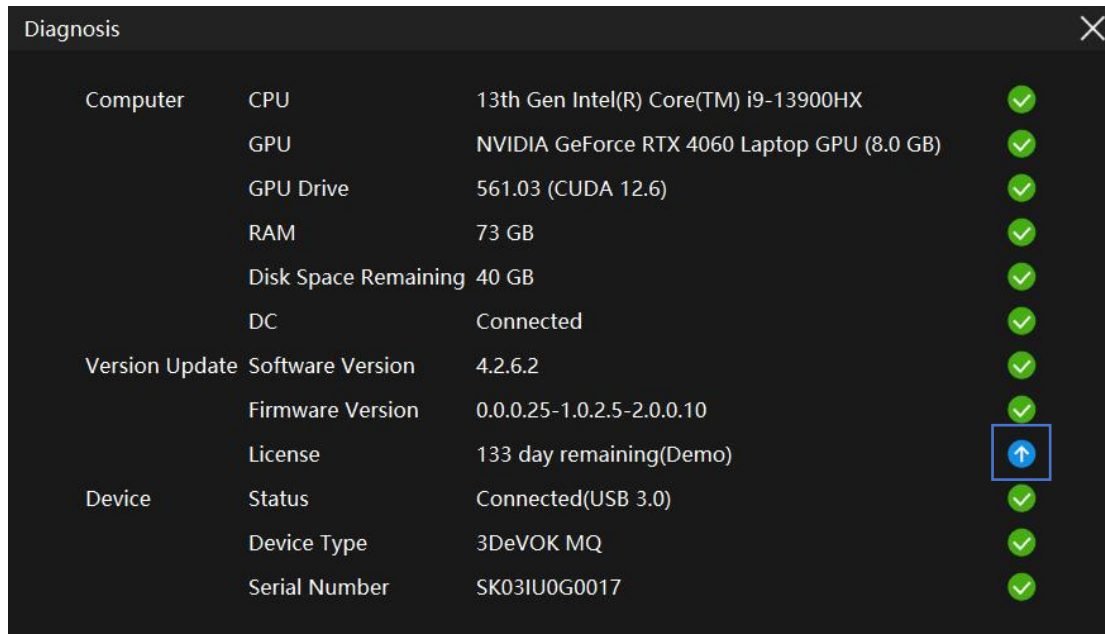
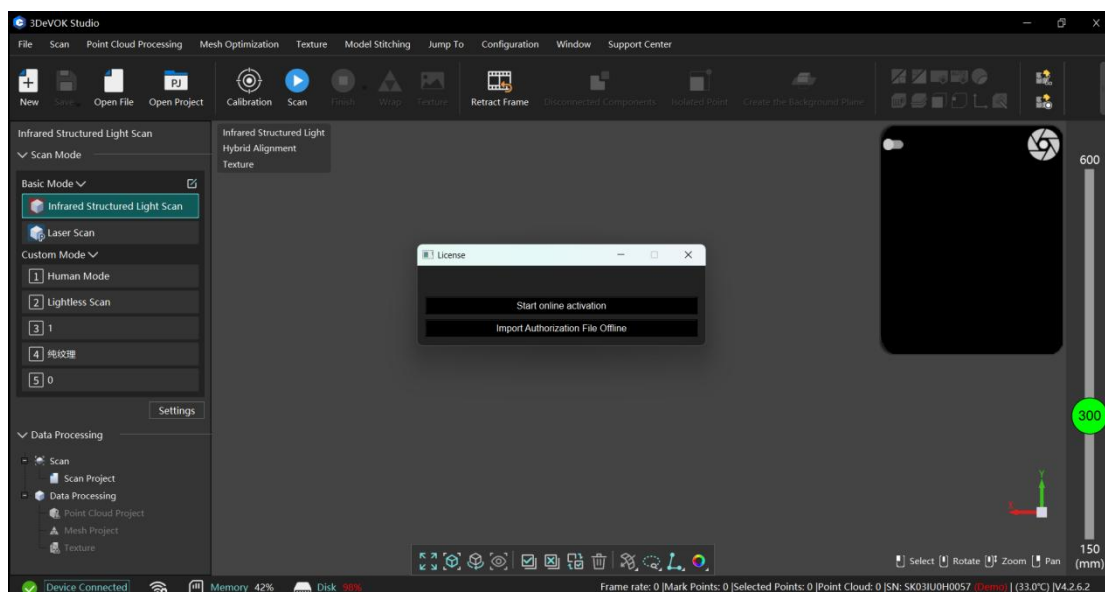

Figure 5-2 Online Activation Button
Figure 5-3 Start Online Activation
2. Click the  button in the "License" section, as shown in Figure 5-2. Then, an online activation prompt will be displayed, as shown in Figure 5-3. Click "Start Online Activation", and the license file will be automatically downloaded.